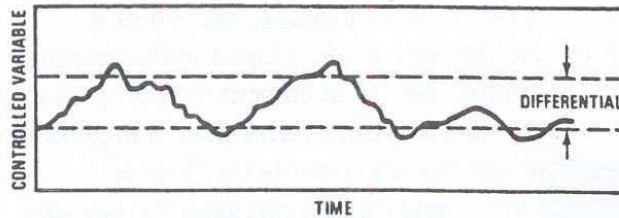

Figure 10-2: Floating action still only involves relatively simple SPDT switches.
2. **Floating control action** (Figure 10-2) is achieved by using a single pole, double-throw transducer that has a preset or adjustable zone of temperature or pressure where neither contact is closed. Floating control action, which usually closes position at a constant rate by switching from the “up” circuit to the “down” circuit, is used to control reversible motors such as those used to position dampers to maintain static pressure in ductwork. Floating control action is also used to monitor multiple speed blowers or high-low-off flow control devices.